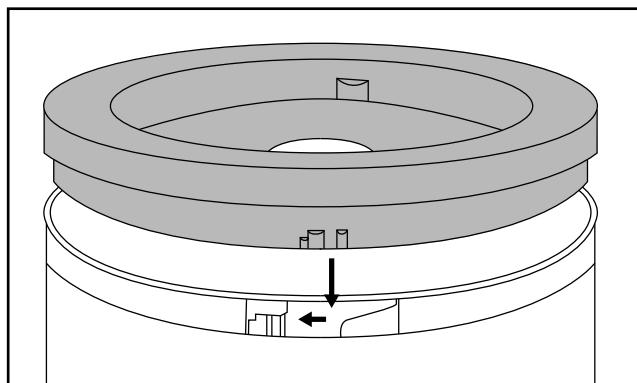

Fig. 1
- 5) Close the bowl ❸ with the connecting piece ❹:
- Place it onto the bowl ❸ so that the tabs on the outer rim of the connecting piece ❹ grip into the catches on the bowl ❸ (see figure 1).
- Then, turn the connecting piece ❹ so that the tabs slide down into the catches and engage.
- Place it onto the bowl **8** so that the tabs on the outer rim of the connecting piece **4** grip into the catches on the bowl **8** (see figure 1).